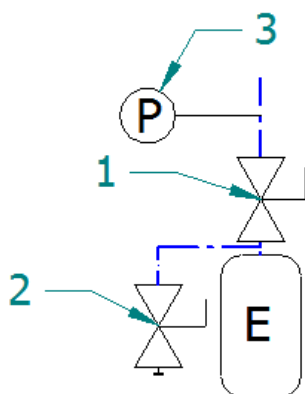

Fig 21 Connecting the expansion vessel
- close the ball valve **1** above the expansion tank (see Fig 21)